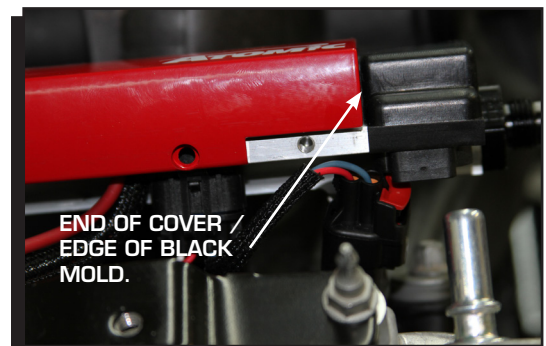

Figure 14 Fuel Rail Cover.
18. Line the end of the fuel rail cover up with the edge of the black mold on the rear of the fuel rail (Figure 14). Slide the cover towards the rear of the engine to engage the locking tabs on the fuel rail. (Figure 15).
1. Line the end of the fuel rail cover up with the edge of the black mold on the rear of the fuel rail (Figure 14).